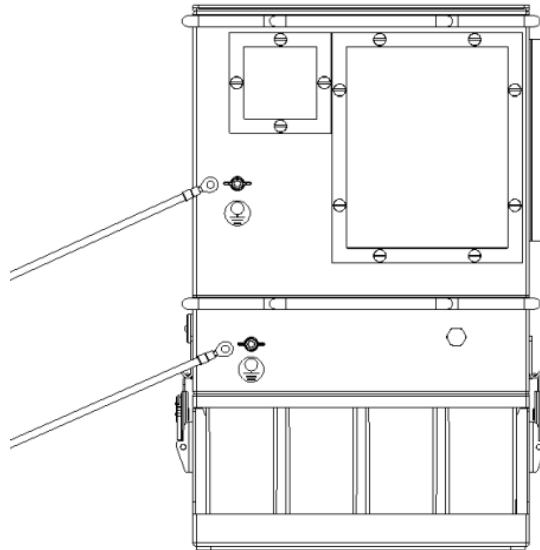

Figure 3-7 System Ground Lugs
7. System can be used without grounding but if the unit is to be grounded to earth or other ground, connect ground stud on rear of unit at this time. A 12AWG wire or larger is recommended for earth grounding. Figure 3-7.
11. If the Charger Box is to be grounded to Earth then connect the ground stud on rear of unit to Earth ground now. A 12AWG wire or larger is recommended for grounding. See Figure 3-7
4. If the CH0027 charger is desired to be grounded, attach a ground wire to the ground stud on the rear of unit. A 12AWG wire or larger is recommended. See figure 3-7